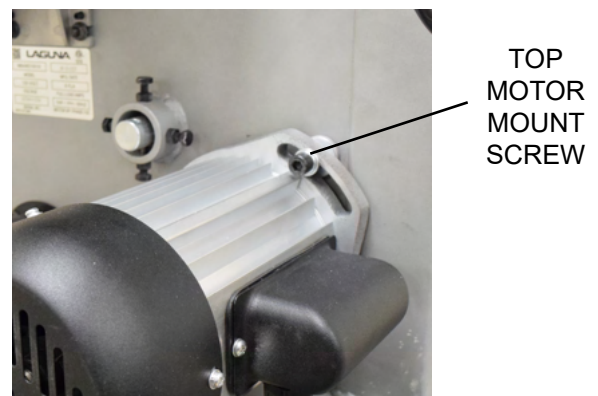

Fig. 61
1. Loosen the top motor mount screw and pivot the motor to release tension on the drive belt (FIG. 61)